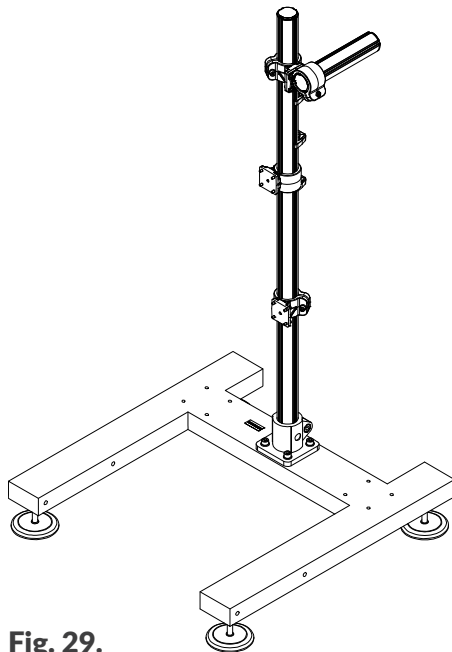
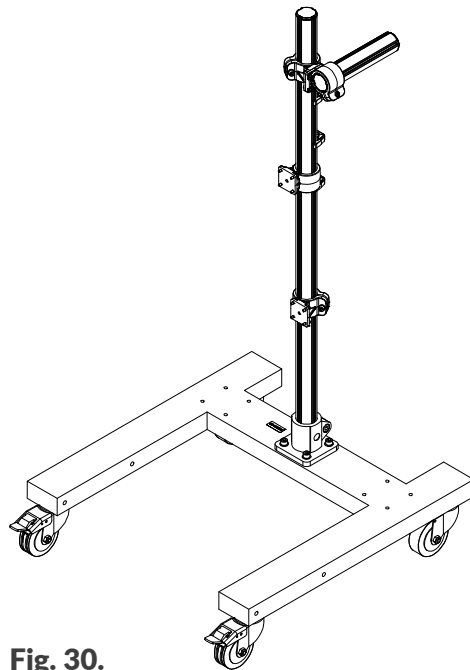

Fig. 29.
Fig. 30.
- a legged stand (Part No. **P910214**; see Fig. 29),
- a wheel stand (Part No. **P910208**; see Fig. 30).
The stability of the system where the printer is installed using the stands shown in Fig. 29 and Fig. 30 has been tested in the worst foreseeable scenario. However, due to the fact that the printer can be configured in many ways, it is required that system stability be confirmed each time the installation is complete. The stand with the printer fastened to it must not tilt or overturn. The stand with the printer fastened to it should be secured against shifting. If the printer is installed on a wheel stand, the brakes at the stand wheels must be put on. The use of stands other than the dedicated ones depicted in Fig. 29 and Fig. 30 does not guarantee required stability of the system, which may lead to personal injuries when the stand with the printer on it tilts or overturns.